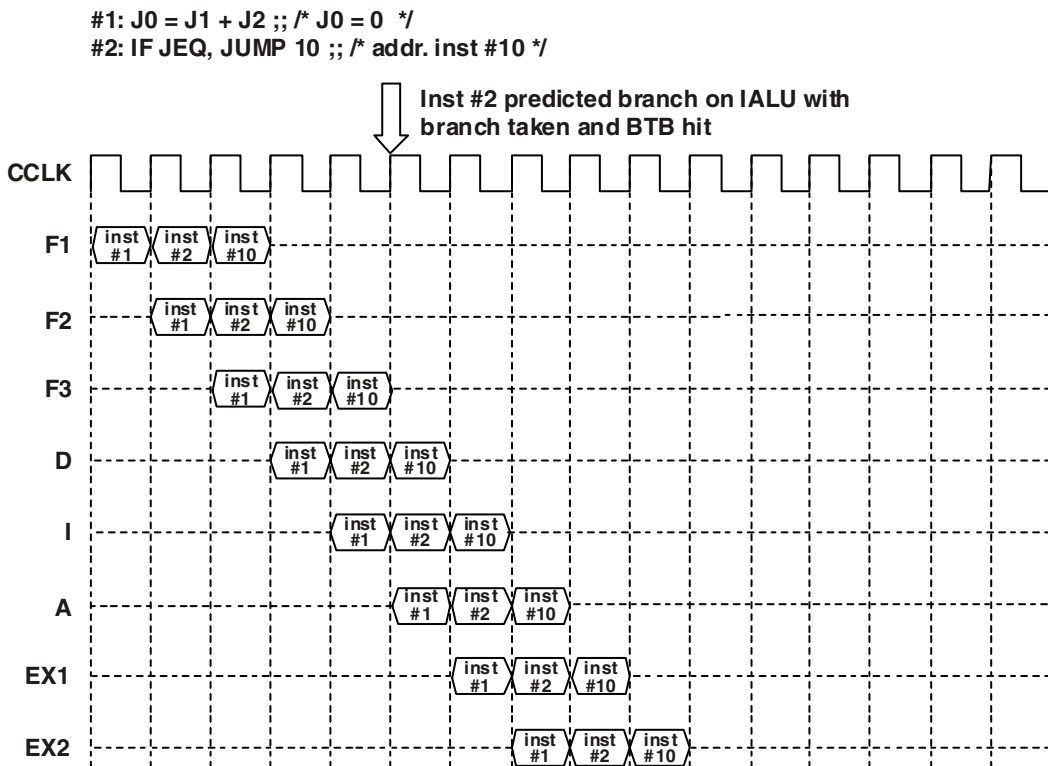

Figure 7-25. Predicted Branch Based on IALU Condition—Branch Taken—With BTB Hit
The different flows are shown in Figure 7-25 on page 7-47 through Figure 7-36 on page 7-65. Each diagram shows the flow of each combination and its cost. The cost of a branch can be summarized as:
Figure 7-25 shows a predicted branch that is based on an IALU condition. Because the branch is correctly predicted as taken and the BTB contains the branch instruction (BTB hit), the pipeline contents are continuously executable (no pipeline stages voided), and there are no lost cycles (branch cost). Note that the pipeline evaluates the IALU condition (JEQ flag set by instruction #1) when the conditional instruction reaches the Integer (I) pipeline stage.